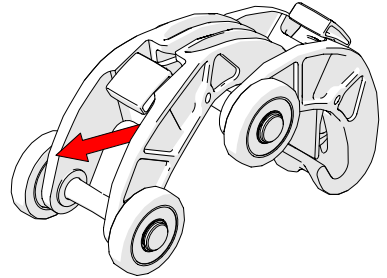

Fig. 47 - Pull the link backwards to secure catch
2. Pull the QuickLink until you hear a click that ensures the latch has been set (*Fig. 47*).